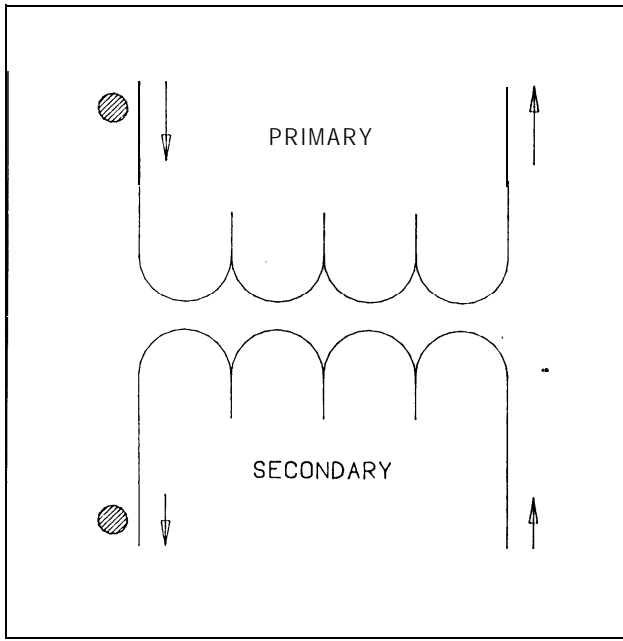

Figure 5-5. Current flow in instrument transformers. "Polarity" marks show instantaneous flows.
(3) *Dot convention.* A dot convention is used in figure 5-5. The dot convention makes use of a large dot placed at one end of each of the two coils which are mutually coupled. A current entering the dotted terminal of one coil produces an open-circuit voltage between the terminals of the second coil. The voltage measured with a positive voltage reference at the dotted terminal of the second coil.